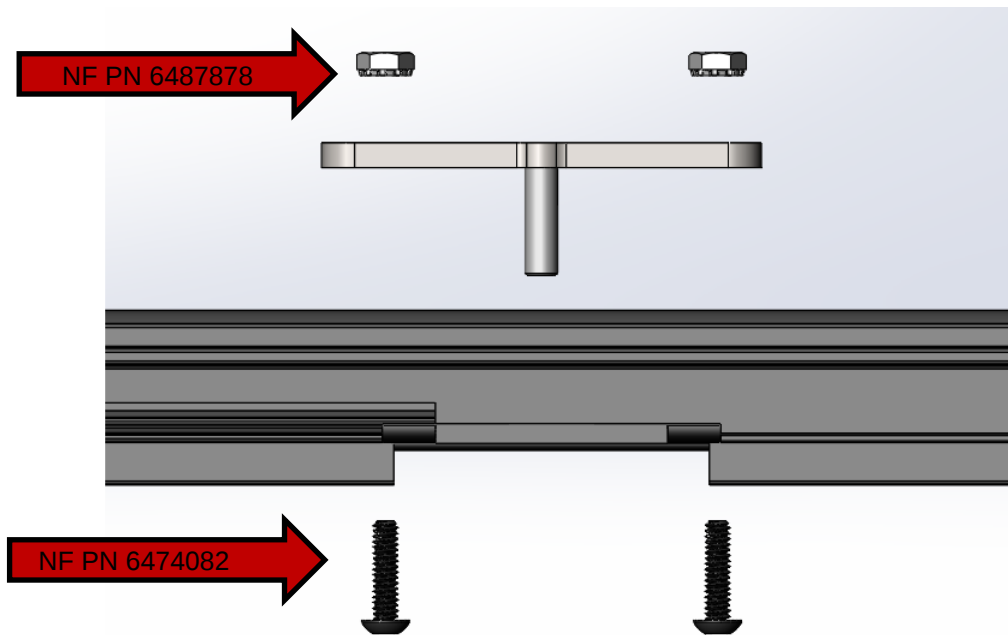

Figure 6: Install New Pin Strikes
- d. Install each replacement pin strike as shown, with the two fasteners (NF PN 6474082) inserted from the bottom and two nuts (NF PN 6487878) placed on top. See Figure 6.